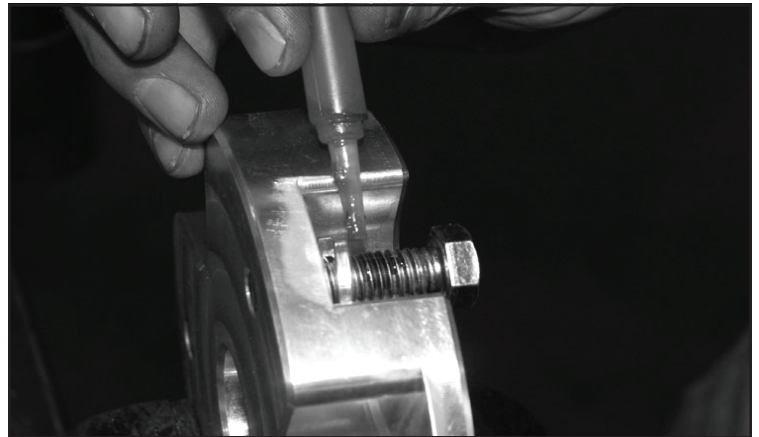

FIGURE 10 - STEP 9
9. Locate the supplied FT44254 (Aluminum Spacer), 3/8"-16 x 1-1/4" bolts, washers, and nuts. Using the thread lock, install the bolts, washers, and lock washers into the FT44254. Torque to 52 ft-lbs. **SEE FIGURE 10**